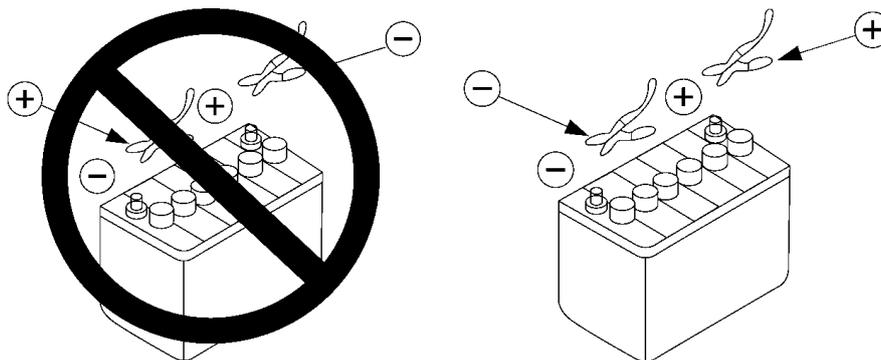

Figure 3-23 Positive and negative connection during charging
c. Connect the positive (+) charger clip of the charger to the positive (+) terminal of the battery, then connect the negative (-) charger clip of the charger to the negative (-) terminal of the battery. Do not charge in reverse, as shown in Figure 3-23.